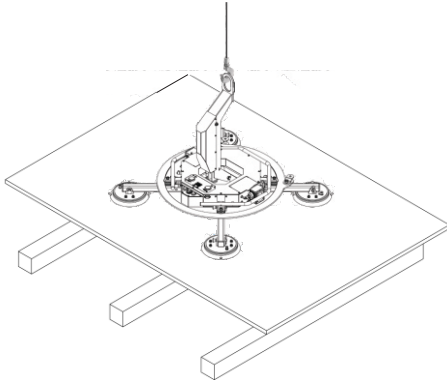
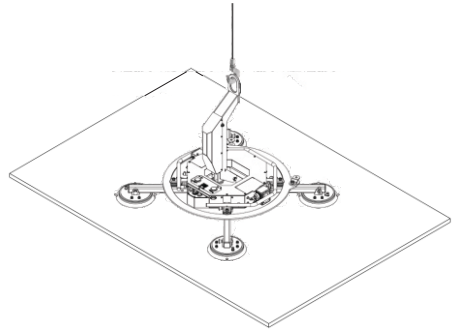

Figure 2.6
Figure 2.7
**Step 5:** Lift and move the glass sheet (Figure 2.6 and Figure 2.7).